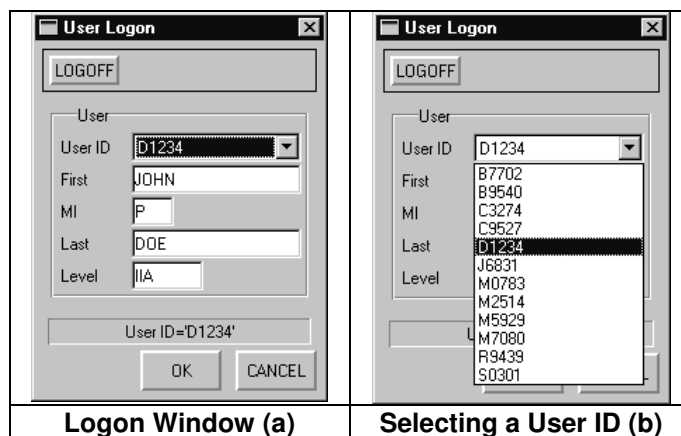

Figure 3-22. Logon Window
- ❑ **Util > Logon ...:** Selecting **Logon ...** from the **Util** menu displays the window shown in Figure 3-22 (a). Logging-on is an option and is not necessary; however, it provides a way for the analyst's **User ID** to be automatically entered in the eddy current report for each tube that the user analyzes. This additional column of information, as well as many others, is only visible if the CoreStar report format is selected. Selecting various report formats will be discussed later in this section under the topic *REPORT Button*. To make a selection, simply click the **User ID** drop-down box as shown in Figure 3-22 (b), and click on the desired **User ID**. The remaining fields of the **Logon** dialog will be filled in automatically. All users' information is retained in a file (.tbl) located in the `\corestar\tables\users` subdirectory. This file is accessed and edited via the *EddyAdmin* utility discussed later in this topic. The **User ID's** shown in Figure 3-22 are traditionally used during the analysis of steam generator eddy current data. They are comprised of the first letter of the user's last name in conjunction with the last four (4) digits of the user's SSN (social security number). Regardless, **User ID's** can be anything the user desires.